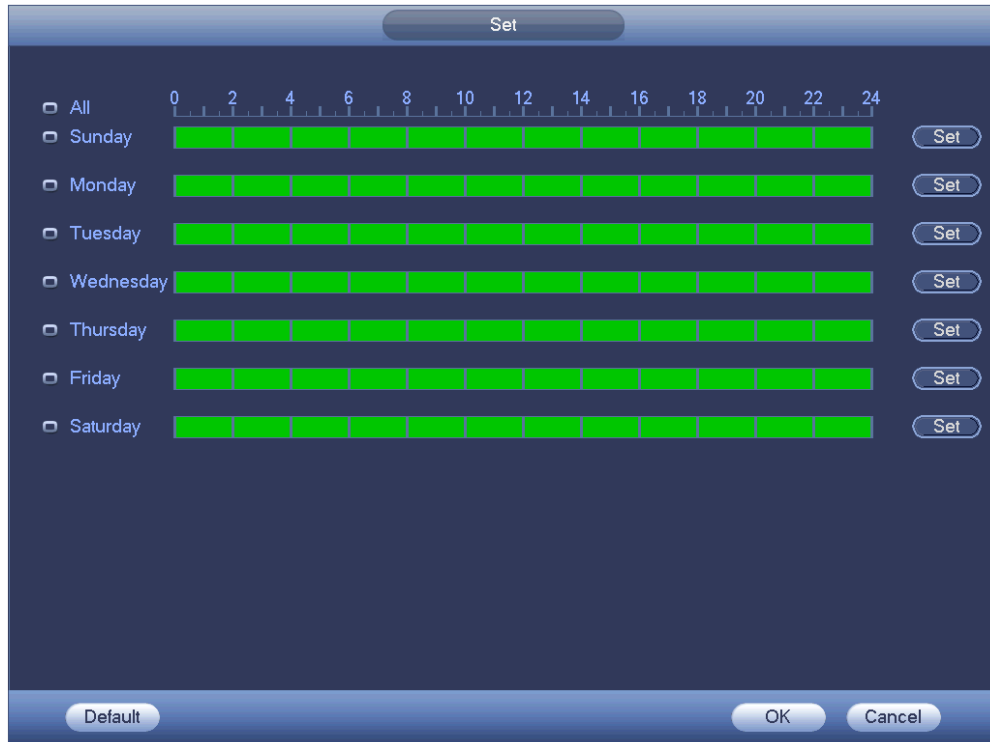

Figure 4-196
Step 4 Click the Set button after the period, you can set valid period to use current account. See Figure 4-196.